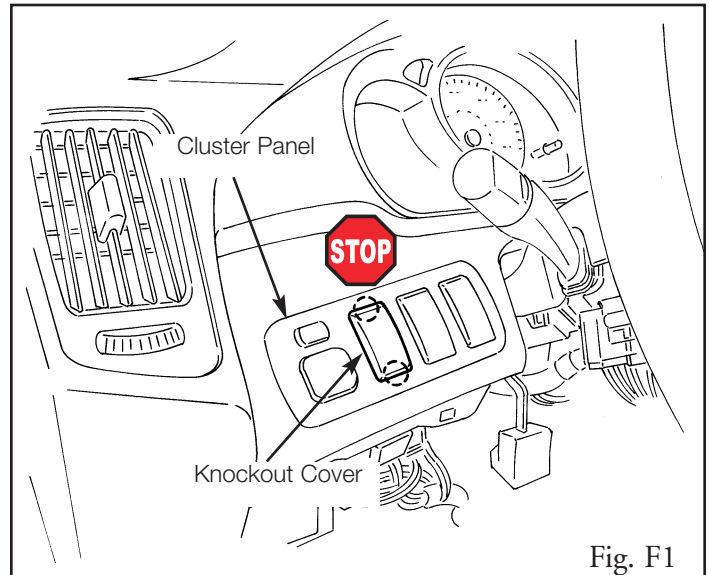

Fig. F1
1. Remove the knockout cover from the far left space of the cluster panel. Vehicles with immobilizer system have security LED in this space. (Fig. F1)